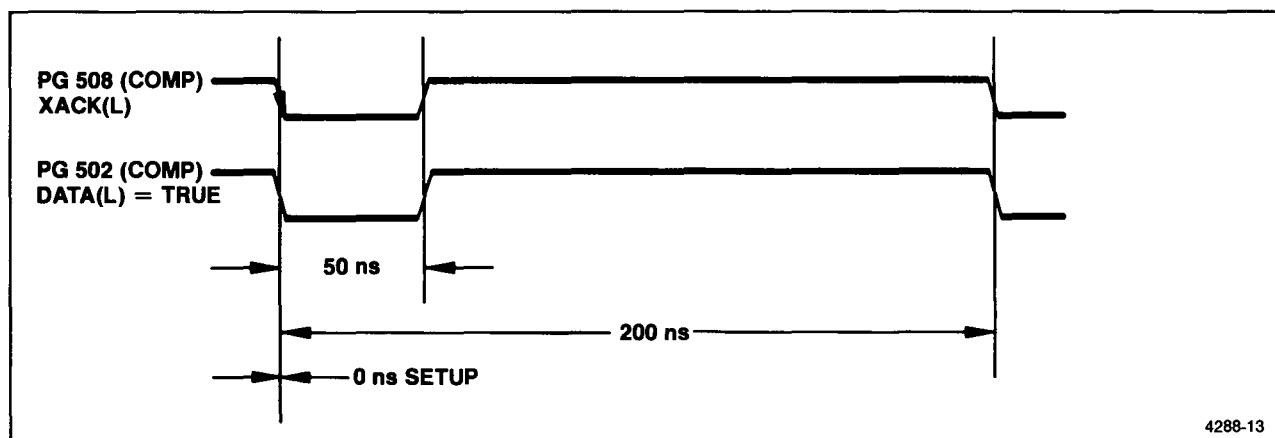

Figure 5-6. DATA setup time (DATA TRUE).
18. Adjust the PG 502 Variable Period knob to obtain a period of 200 ns at the center graticule. Refer to Figure 5-6.
24. Adjust the PG 508 Variable Duration knob for a 50 ns pulse width low, at the graticule line 2 divisions above the center line. Refer to Figure 5-6.
27. Adjust the PG 508 VARIABLE DELAY knob to align the falling edges of the two traces, as shown in Figure 5-6.
4. Confirm that the oscilloscope waveforms are as shown in Figure 5-6.